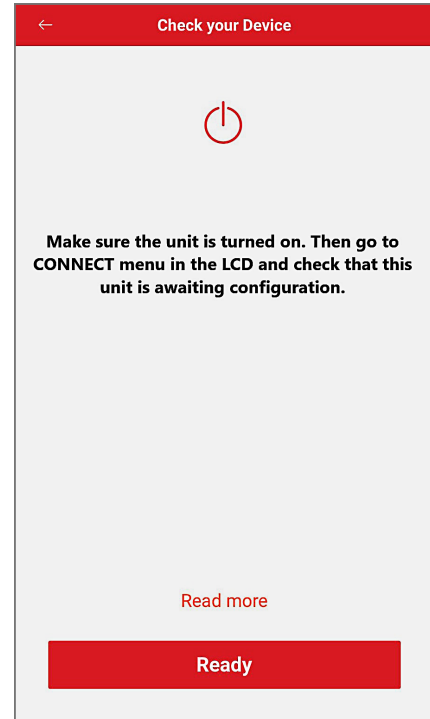

Figure 82. Check your Device
- 1. "Check your Device" screen will appear. Ensure to have AVIA heater powered and Wi-Fi signal available in the area, then press "Ready" button. See **Figure 82**.